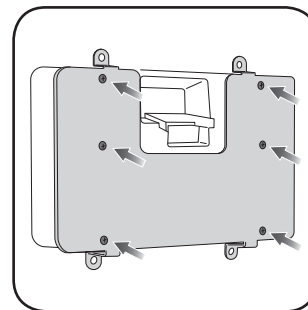

Fig. 3.5
5. Place the metal bracket onto the radio display and secure it with the six Phillips screws provided with the radio. (Fig. 3.5)